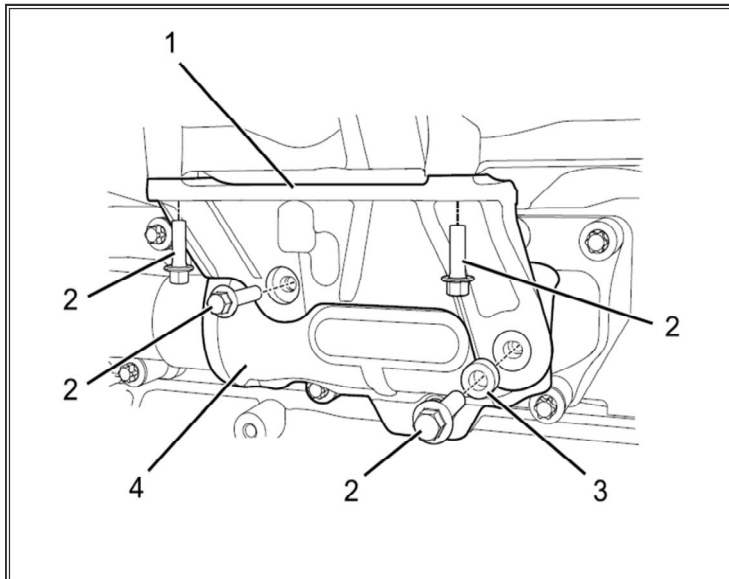

Figure 23: EGR Cooler L-Bracket
- Item 2: M8 x 25 heat-resistant bolt (4)
24. Remove EGR cooler L-bracket (Figure 23, Item 1)